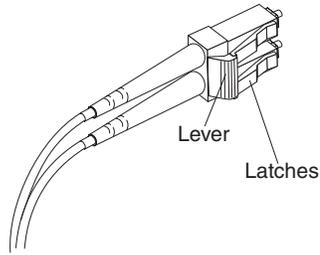
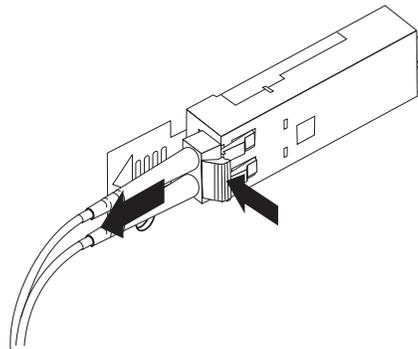

Figure 33. LC-LC fibre channel cable lever and latches
Figure 34. Removing the LC-LC fibre channel cable
1. On the end of the LC-LC cable that connects into the SFP module or host bus adapter, press down and hold the lever to release the latches, as shown in Figure 33 on page 37. Carefully pull on the connector to remove the cable from the SFP module, as shown in Figure 34 on page 37.